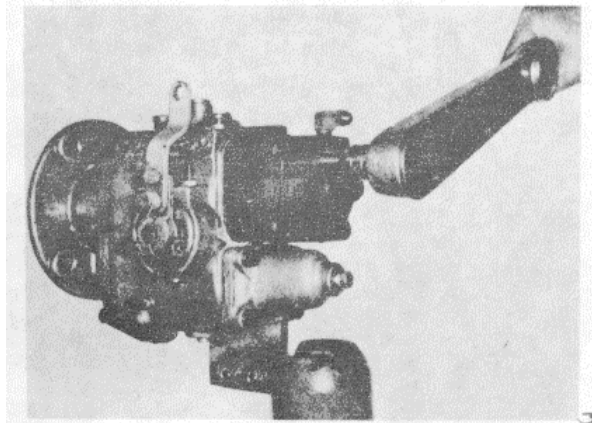

Figure 16G-66. Torquing Gear Pump Capscrews
2. Torque capscrews in increments to 1 !1 to 13 foot pounds (15 to 18 N.m), Figure 16G-66. Check gear pump rotation freedom.